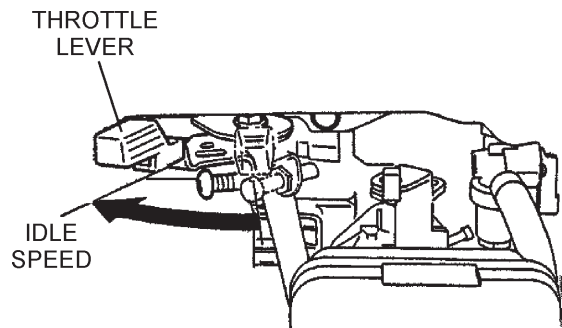

Figure 15. Throttle Lever (Idle)
- Move the throttle lever to the **IDLE** position (Figure 15) and run the engine for three minutes at idle speed.